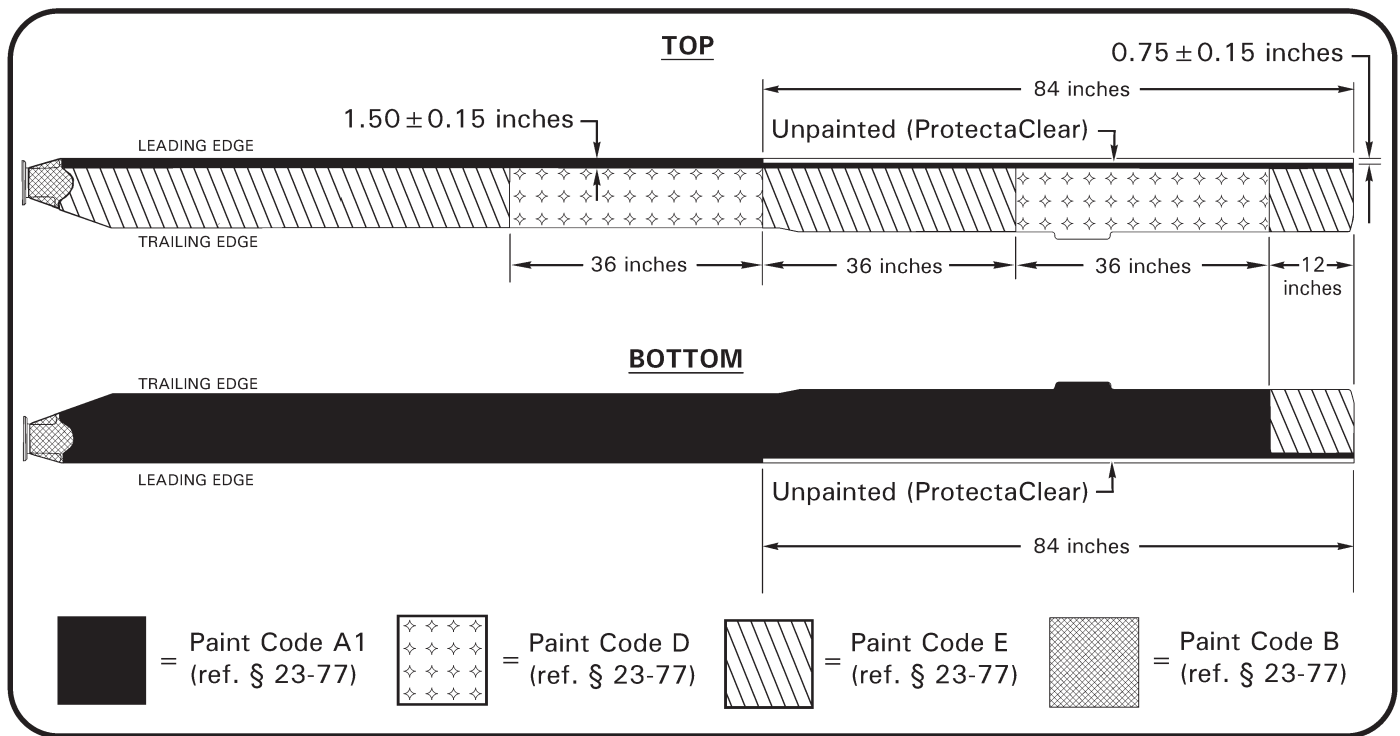

FIGURE 28-19 C016-7 MAIN ROTOR BLADE PAINT SCHEME
4. Refer to Figure 28-19. Mask blade(s) as required, and protect helicopter to prevent overspray contamination.
6. Refer to Figure 28-19. Apply dark gray, flat black, white, and/or yellow polyurethane enamel, as required, to primed area in accordance with paint manufacturer's recommendations.
Refer to Figure 28-19. Repaint leading edge per § 28-52 as required. Outboard leading edge may be refinished per Part C.
5. Refer to Figure 28-19. Using 3M vinyl tape (or equivalent), apply masking to blade(s) along 0.75-inch dimension and aft of feathered paint. Protect blade(s) and helicopter from overspray contamination.